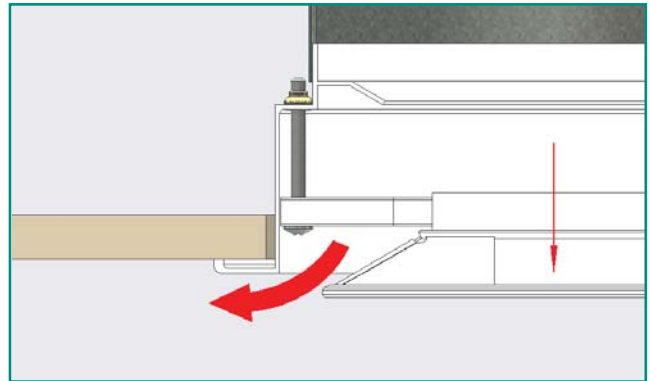

Figure 7: Move Core out for the airflow to follow the ceiling face
a) By adjusting the core to sit below the diffuser face will cause the air flow pattern to follow the ceiling face (**Figure 7**)